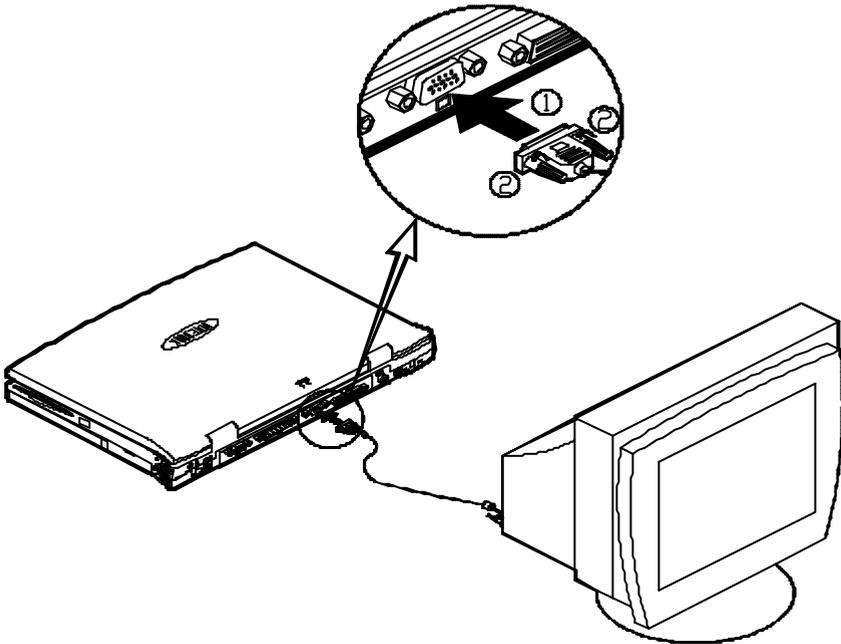

Figure 2-25
- Connect the cable to the CRT port on the rear of the Notebook Computer (Step 1 in Figure 2-25).
- Tighten the screws that fasten the cable to the CRT port (Step 2 in Figure 2-25).